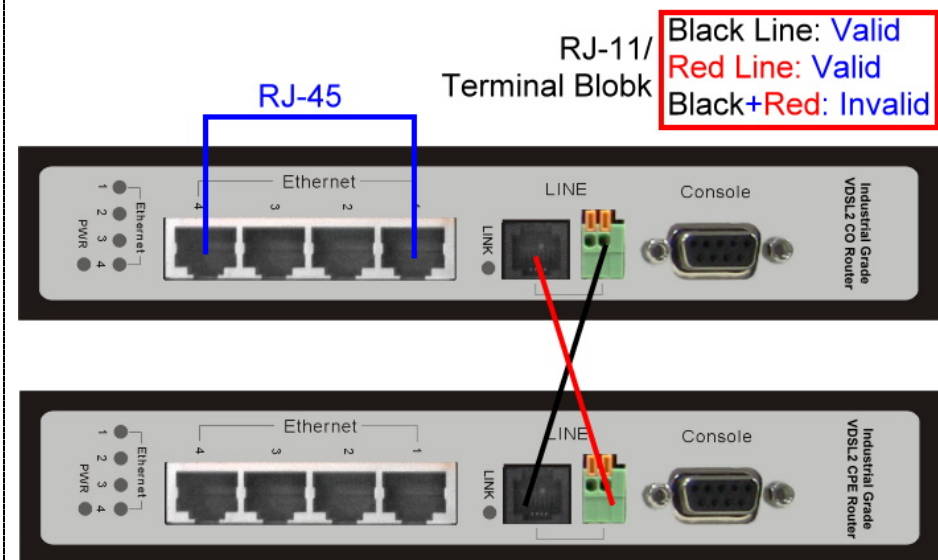

Figure 2.5 Industrial VDSL2 router line ports crossover connection
- ◆ The line port has 2 connectors: RJ-11 and terminal block. It is used to connect from Industrial VDSL2 CO router using single pair phone cable to Industrial VDSL2 CPE router(point to point solution). Take note that Industrial VDSL2 router line port cannot be used at the same time. Either RJ-11 port is connected or terminal block is connected using straight connection (Figure 2.4) or cross-over connection(Figure 2.5)